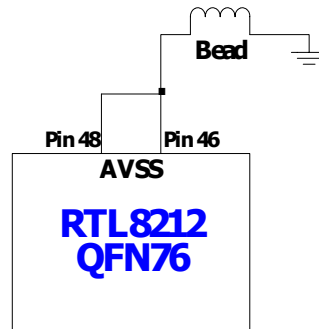

Figure 7. Separate Serdes GND and System GND via a Bead
- Separate Serdes ground (AVSS pin46, pin48) and system ground by a bead (size= 0603). See Figure 7.